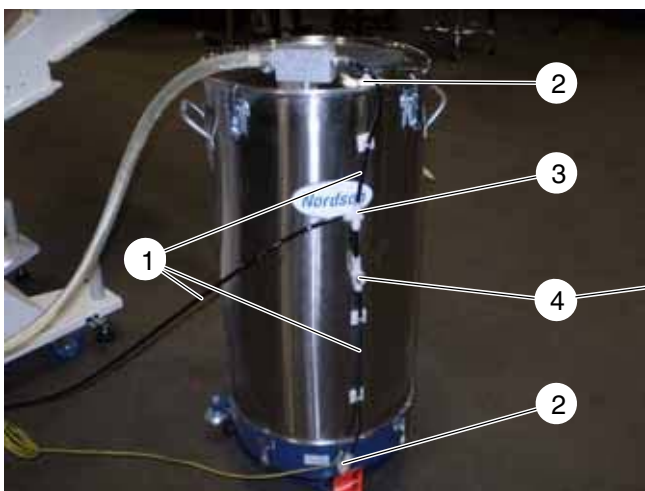

Fig. 3-16
9. Fig. 3-16: Connect the transfer pump and the refill hopper fluidization using the black 8 mm air hose (1), the reducer 10/8 mm (2), the T-piece (3) and the throttle (needle valve, 4).